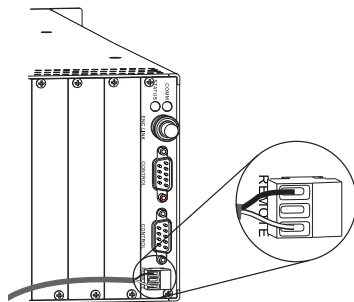

FIG. 6 Insert wires into REMOTE connector on enclosure
5. Insert the two wires from the CP-10 Remote into the two outer slots of the REMOTE connector on the matrix switcher, leaving the center slot empty (FIG. 6).